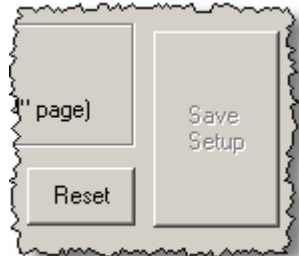

Figure 218
**Reset** – to reset the last saved configuration settings (Figure 218).